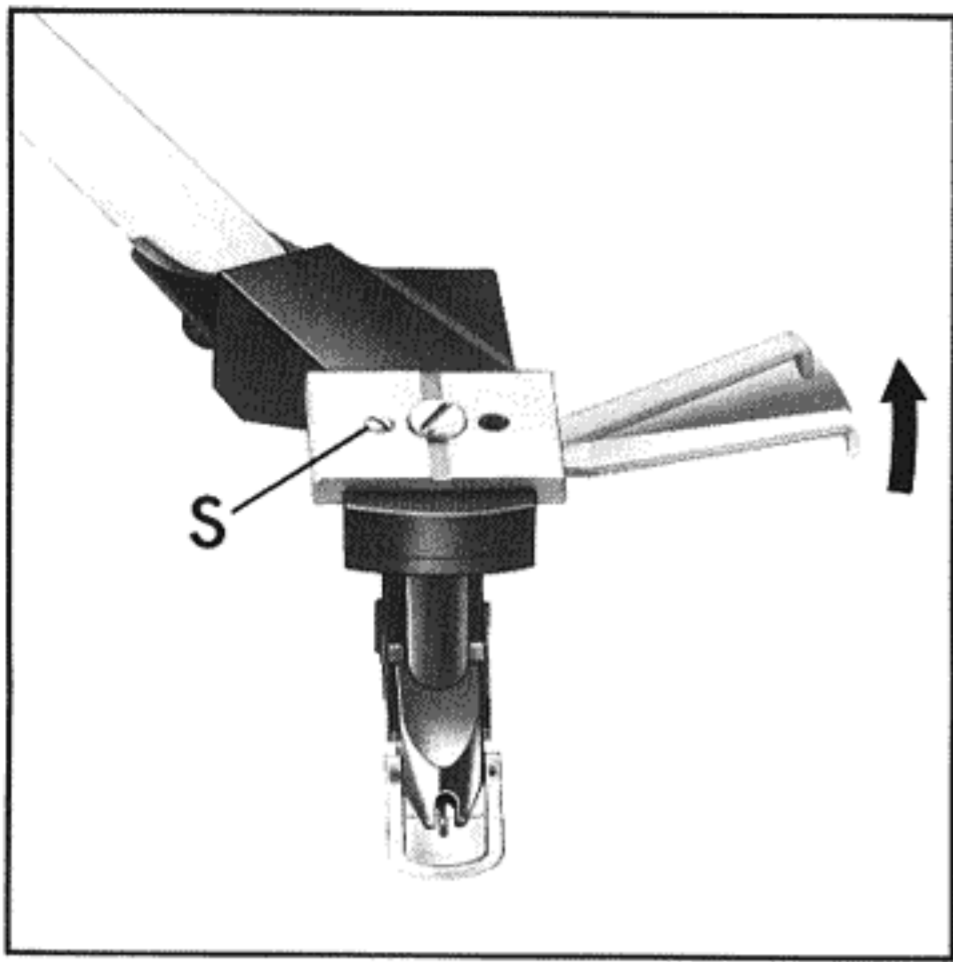

Fig. 4
1. The ULM cartridge in its mounting plate is secured to the tonearm head by an attachment screw (13). There may also be an additional small screw (Fig. 4/S) inserted in the tonearm head at the side of the attachment screw. If so, remove this first and set aside. (Its function is to prevent removal of the stylus assembly).